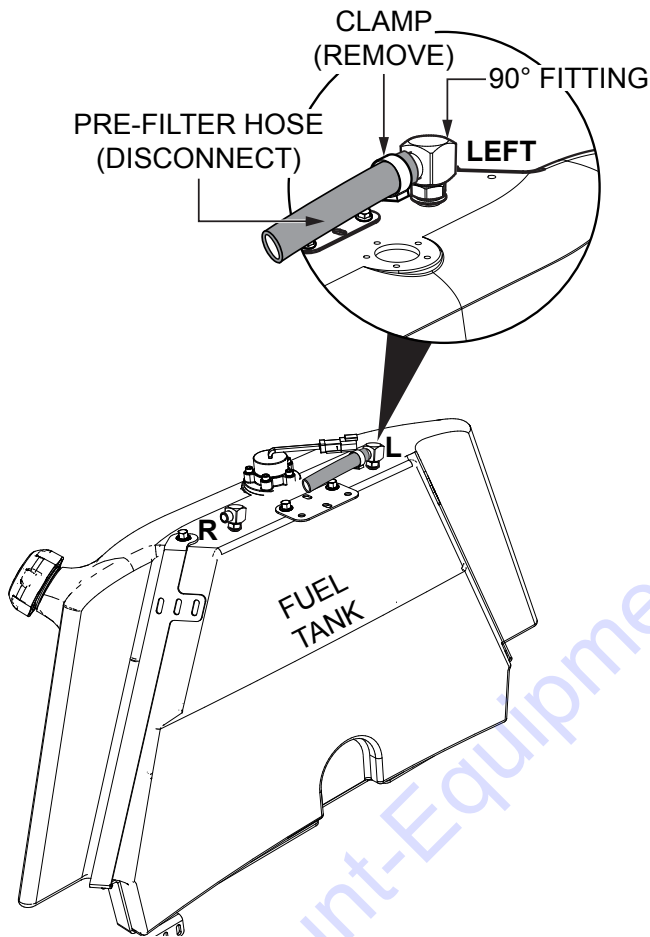

Figure 3. Pre-Filter Hose Disconnection
1. Remove and discard the clamp securing the pre-filter hose to the 90° fitting on the **LEFT** side of the fuel tank (Figure 3).
2. Disconnect the pre-filter hose from the 90° fitting on the left side of the fuel tank (Figure 3).